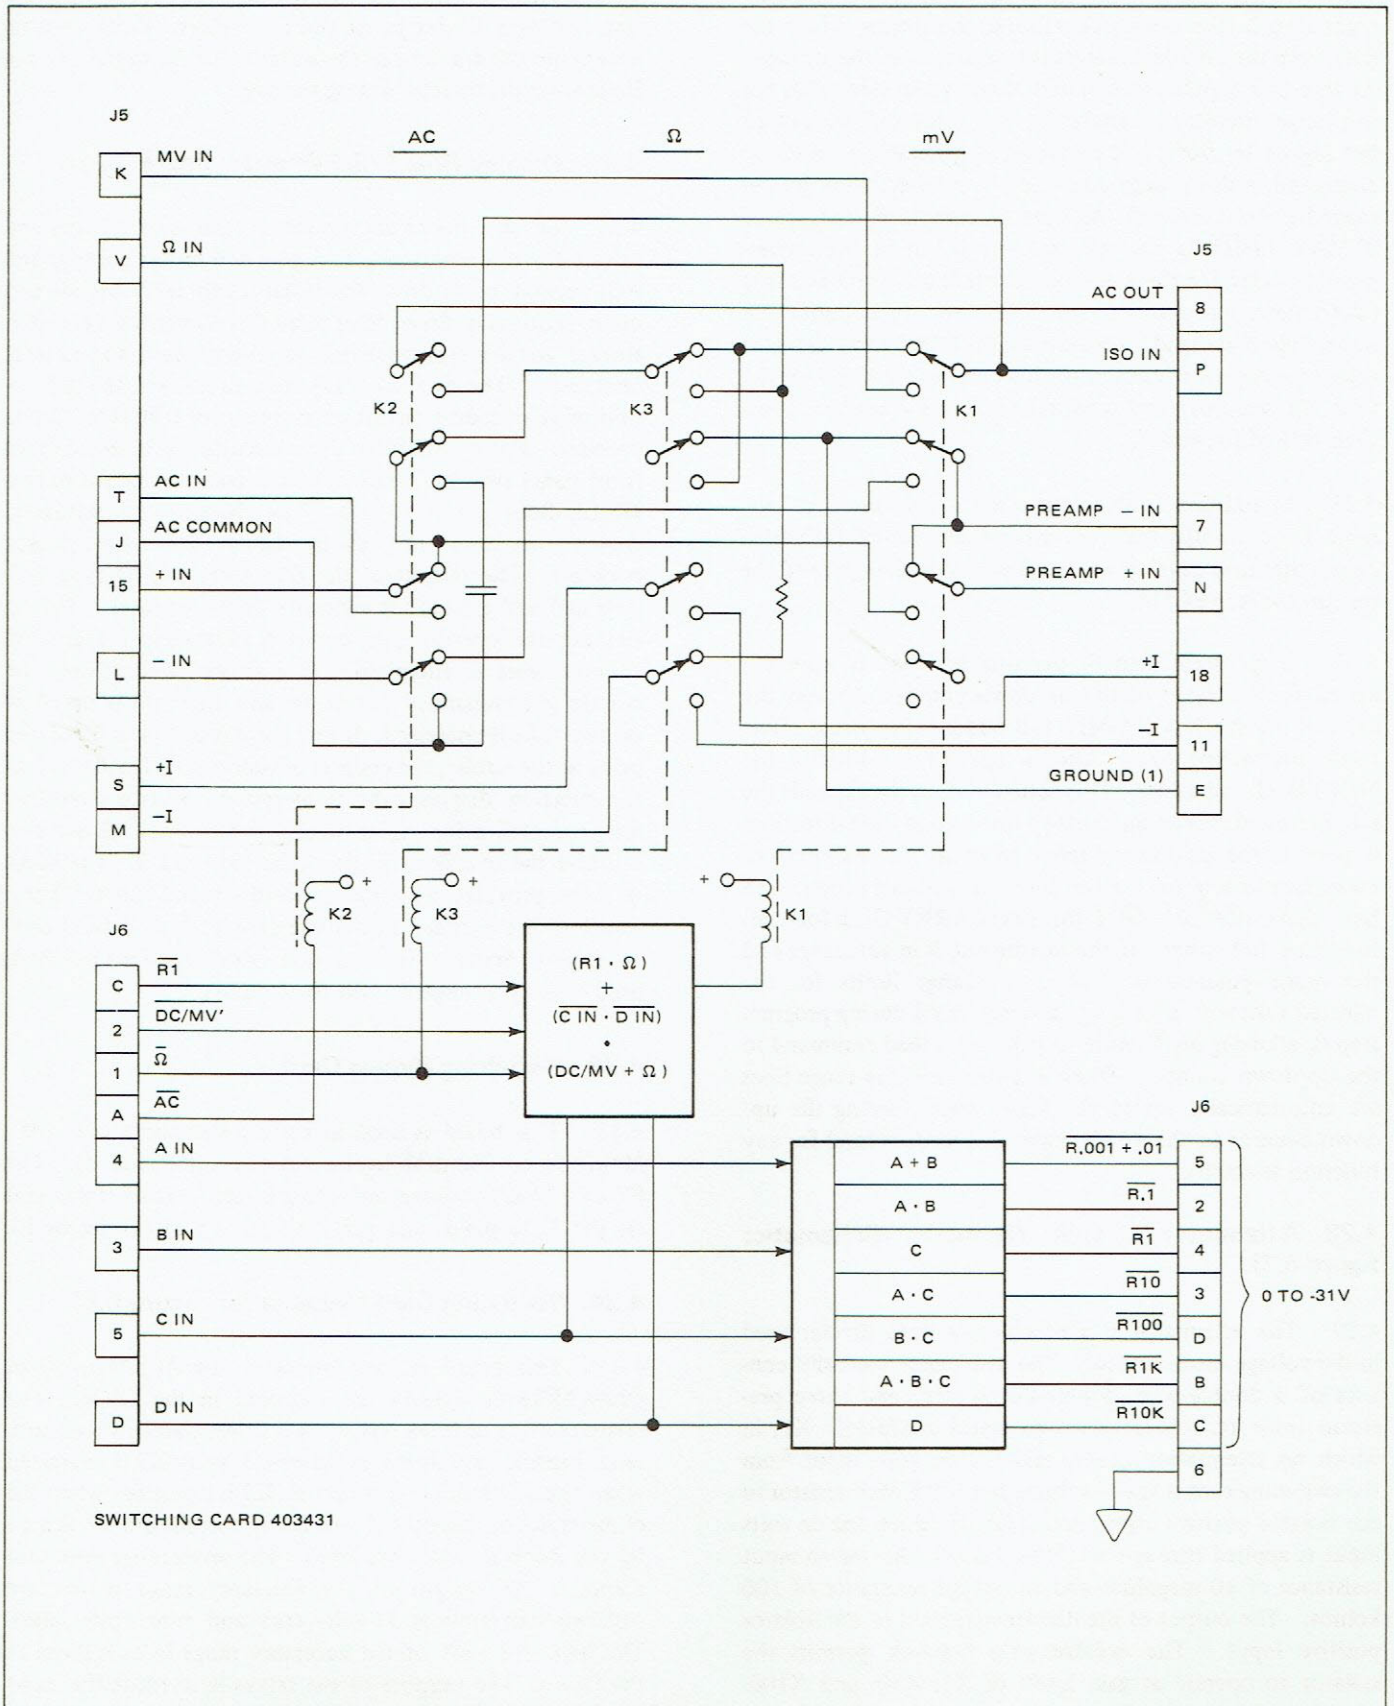

Figure 4.3 - Simplified Schematic - Switching Card
4.35 This board is used whenever the AC, Millivolt or Ohms/Millivolt options are included in the DVM. The board consists of three relays, their drivers, and an accessory range matrix. As shown in figure 4.3, relay K2 is energized when the AC function is selected, K3 is energized when the ohms function is selected and K1 is energized as indicated by the Boolean equations given. The seven range lines that comprise the output of the accessory range matrix are negative true (minus 31-volts true and zero volts false). The logic for each of the accessory range lines is given in the figure. The purpose of the relays is to route the input